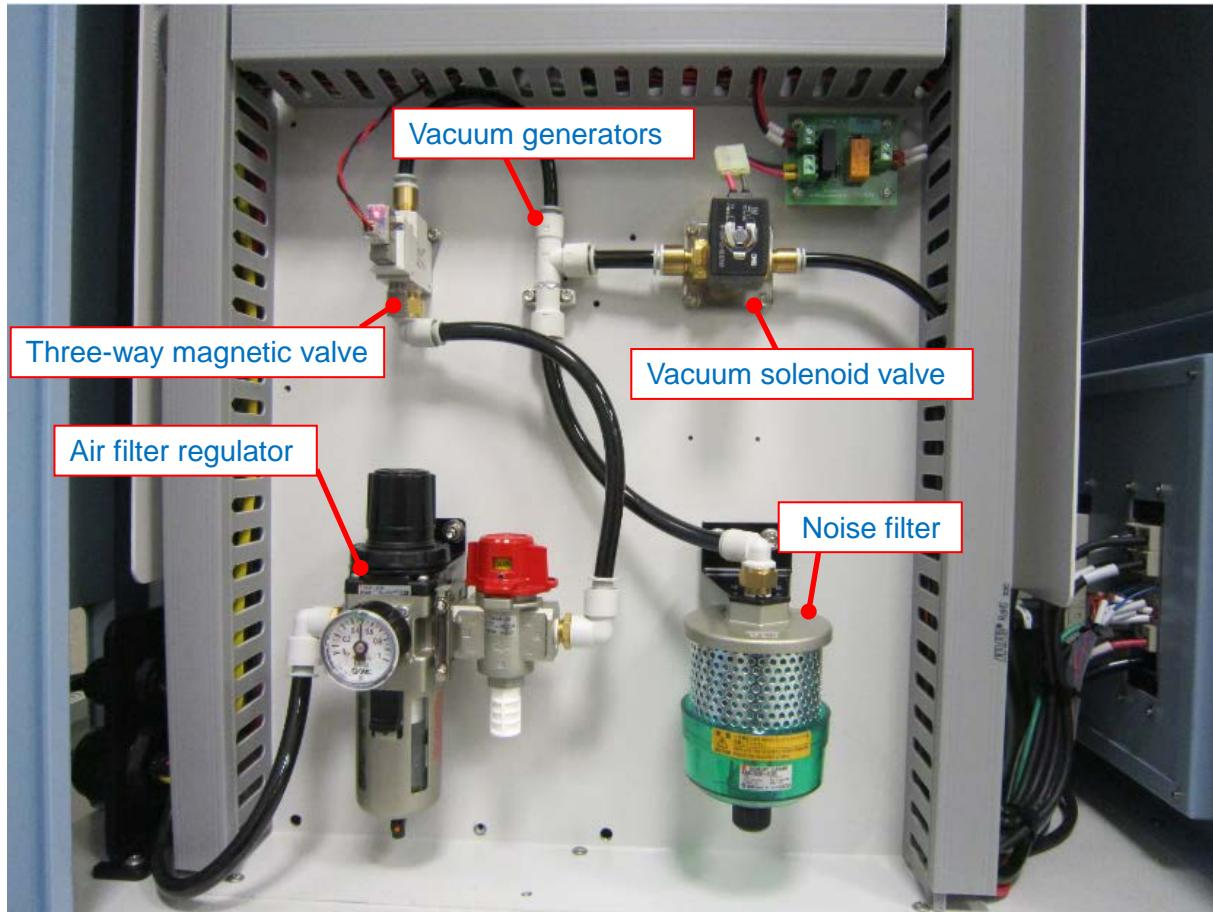

Figure 4-2 Vacuum system diagram
- (1) Mainframe: It consists of air filter regulator, three-way magnetic valve, vacuum generator, vacuum solenoid valve and noise filter as *Figure 4-2* shows.